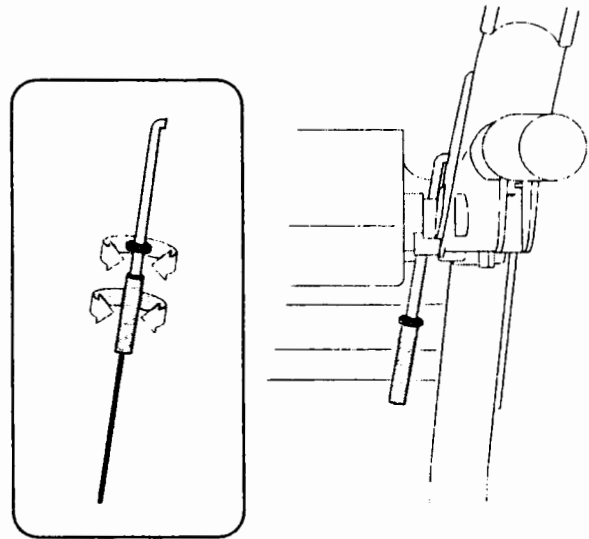

Figure 18
If any of the above tests failed, the drive cable is in need of adjustment. refer to Figure 18 and proceed as follows:
- Loosen the hex jam nut on the auger control cable "Z" fitting and rotate the coupling end (**without turning the cable**) of the cable downward to provide more slack or upward to take up slack. See Figure 18 .
NOTE: Some models are equipped with reversible skid shoes and may be turned over to increase their lifespan. See Figure 18.